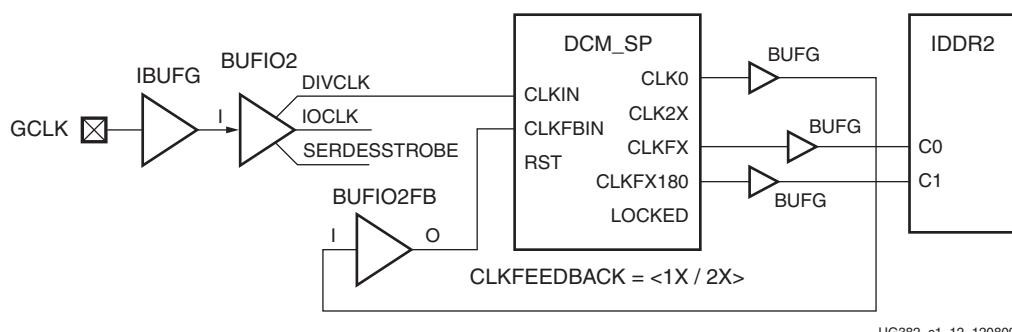

Figure 1-18: Example 5: DCM Deskewed to the Inputs
- For the highest performance, use two DCM outputs with separate BUFGs with 180° phase difference. Works with or without IODELAY2. See Figure 1-18.
In designs where DCM_SP performance is adequate, DCM_SP can be used to drive IOLOGIC (IDDR2) using up to three BUFG clock buffers. To match the input routing delays, either CLK0 or CLK2X must be used to drive the BUFIO2FB as shown in Figure 1-18.